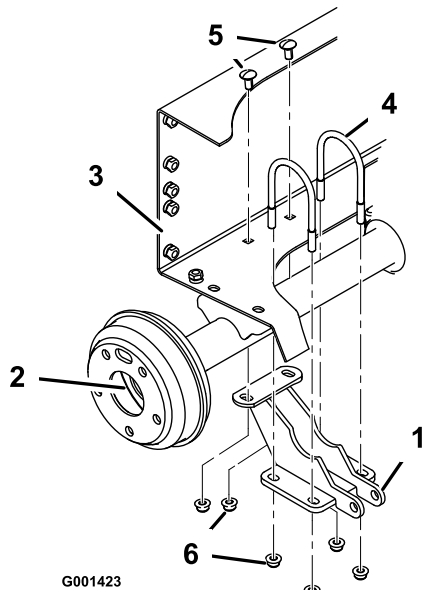

Figure 5
3. Loosely mount the lift cylinder support to the right end of the rear axle with 2 U-bolts and 4 flange nuts (3/8 inch) while aligning the mounting holes with the holes in the battery tray (Figure 5).
two nuts securing the rear of the bracket to the rear frame (Figure 5).